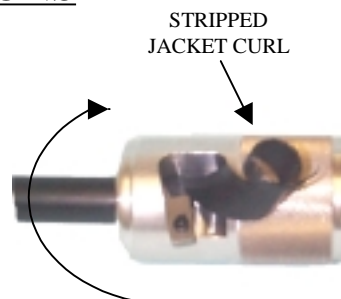

Fig. 2
Step 2. (Fig. 2) Rotate the tool in a clock-wise direction using slight forward pressure until the desired length is reached. To stop the stripping action, hold back the normal advancing motion of the JST or place your hand on the cable and rotate the tool against your hand. Either process will produce a straight cut.